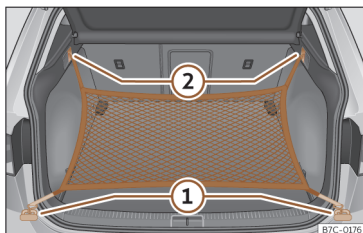

Fig. 113 In the luggage compartment: rings ① and hooks ② for attaching the net bag.
- Secure the short net hooks to the fastening rings >>> Fig. 113 ① >>> ⚠. The bag zip should be facing upwards.
- Secure the straps in the bag hooks ②.